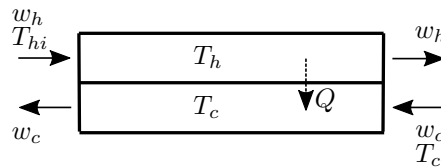

Figure 3: Simple heat exchanger
Consider Figure 3. The the hot and cold mass flow rates w_j , $j = \{h, c\}$ are assumed constant, such that the mass on each side are constant. The inlet temperatures are T_{hi} on the hot side, and T_{ci} on the cold side. The heat transfer from hot to cold side is
- (2 %) (c) Make a sketch of the temperature profiles in the hot and cold stream of a counter-flow heat exchanger (in principle like the one shown in Figure 3, where the hot and cold fluid enter on different ends). Draw them both in the same diagram, with position along x -axis and temperature along y -axis. Mark T_{ci} and T_{hi} in the sketch.
- (2 %) (d) Do the same for a heat exchanger with parallel flows (where the hot and cold fluids enter at the same end, compared to Figure 3 where they enter on opposite ends). Why do you think counter-flow heat exchangers might be a better set-up than a heat exchanger with parallel flows?